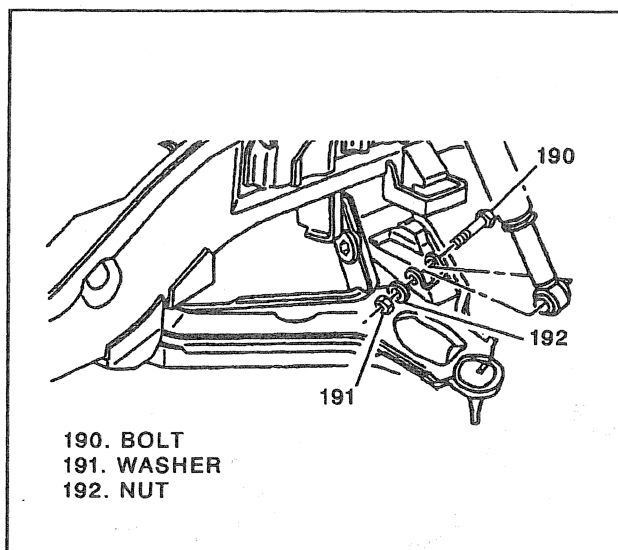

Figure 9—Disconnecting Lower Shock Mount
6. Lower shock mounting nut and bolt (figure 9).
6. Stabilizer shaft bolt (62), spacer (56), and bushings (65).
8. Shock mounting bolt (190), washer (191), and nut (192) (figure 9).